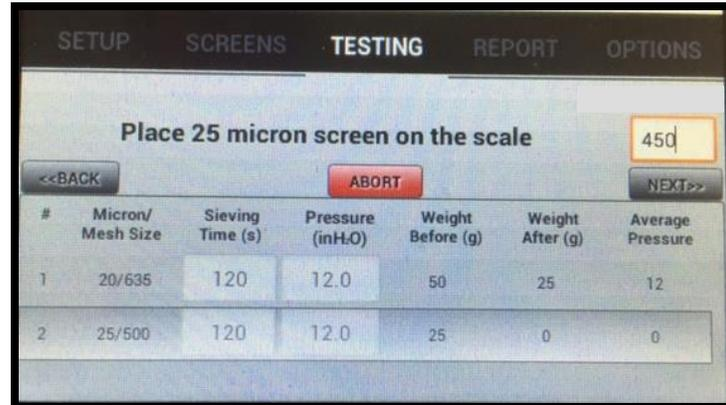

Figure 49
23. Place the Test Sieve Screen, as instructed by the software, on the balance. Confirm the balance weight displayed and the MAJSx screen are the same and press the **NEXT** button. (See Figure 49)